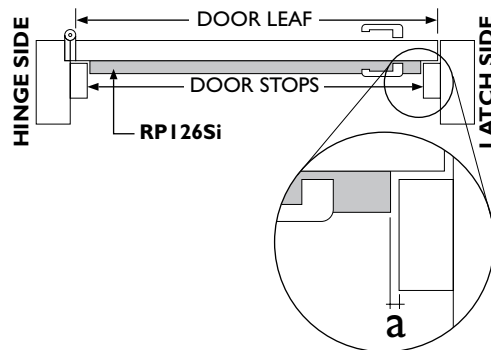

FIG. 3
STEP 4 Drill and countersink mounting holes in housing flange to suit largest screws supplied. (FIG.3 & FIG.4)
STEP 6 Wind adjustment screw anti-clockwise until it stops. (FIG.3) **Note:** Do not overtighten as this may damage components and void warranty.